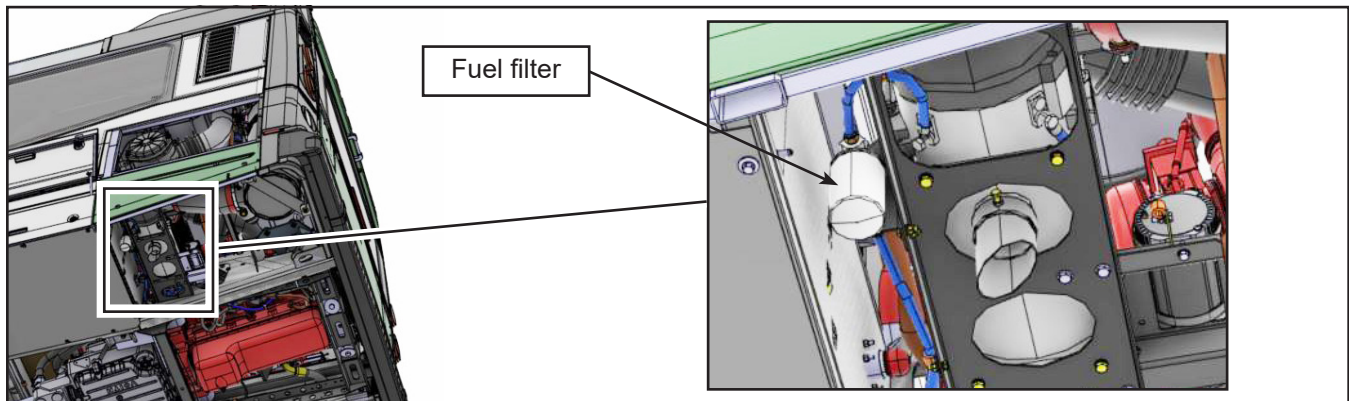

Figure 8 - Old Fuel Filter Location (Some Components Removed for Clarity)
- 1.15. Locate the auxiliary heater and the old fuel filter (Figure 8).